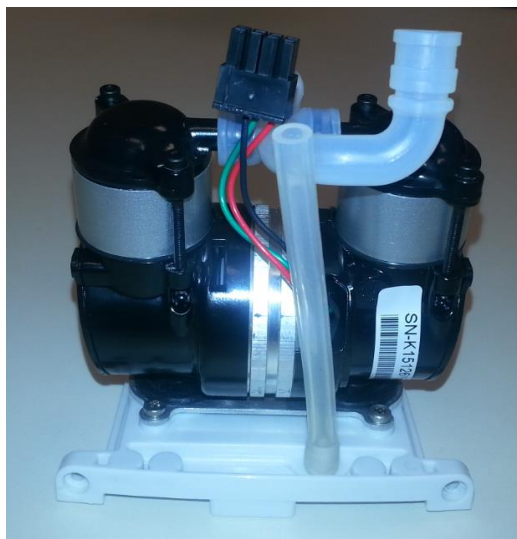

Figure 9: Properly installed dual feed tube
1. Use the same technique to install the new dual feed tube to the compressor. Use pliers to push the tube onto the connectors (Figure 9).